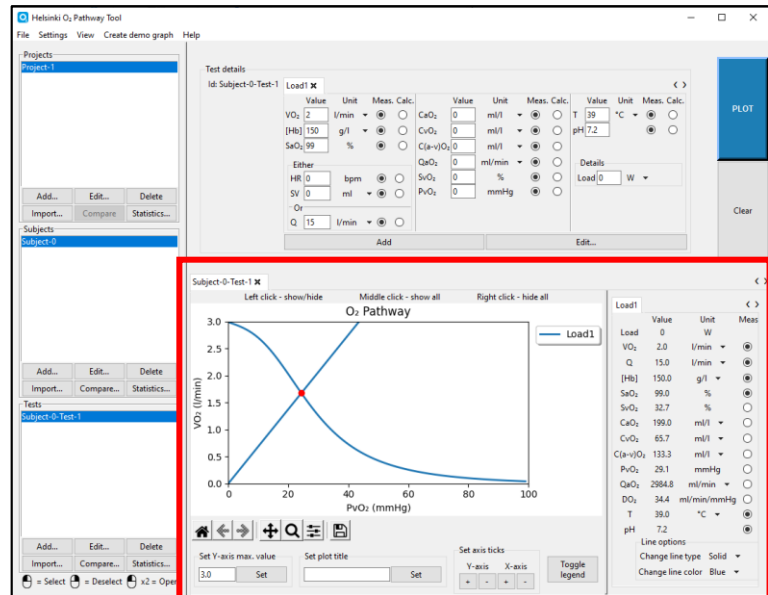

Figure 36
6. If the values given are valid, the figure is shown in the plot panel (figure 36).